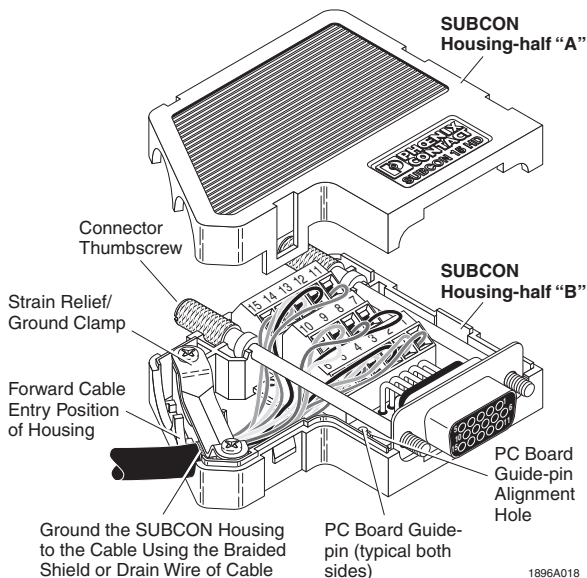

Figure 9. Assembling Connector for Left-side Cable Entry
1. Place the printed circuit board onto the PC board guide pins of housing-half "B". See Figure 9.
3. Terminate conductors using the guidelines shown in Figure 9. For cable containing over 20 conductors, we also recommend installing one of the connector thumbscrews after about one-half of the conductors have been terminated.